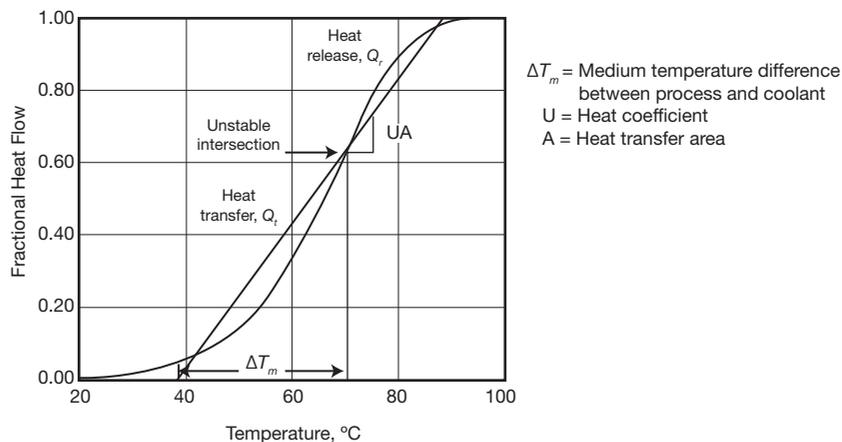

Figure 2. Insufficient heat-transfer surface makes a reactor unstable.
**A** This application should have a cascade loop, so the secondary controller adjusts the split-range valves. I think you have an exothermic reactor. Exothermic reactants can be unstable at the normal operating point (Figure 2.)